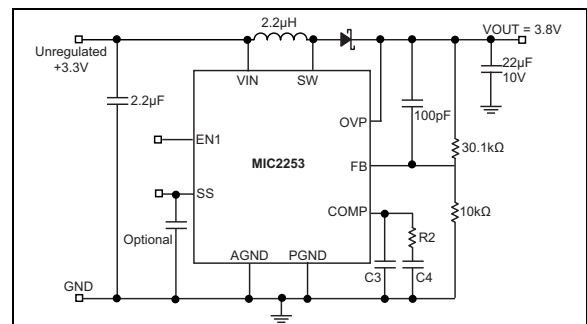

FIGURE 5-1: Typical Compensation Circuit.
- Added Figure 5-1 and Figure 5-2.